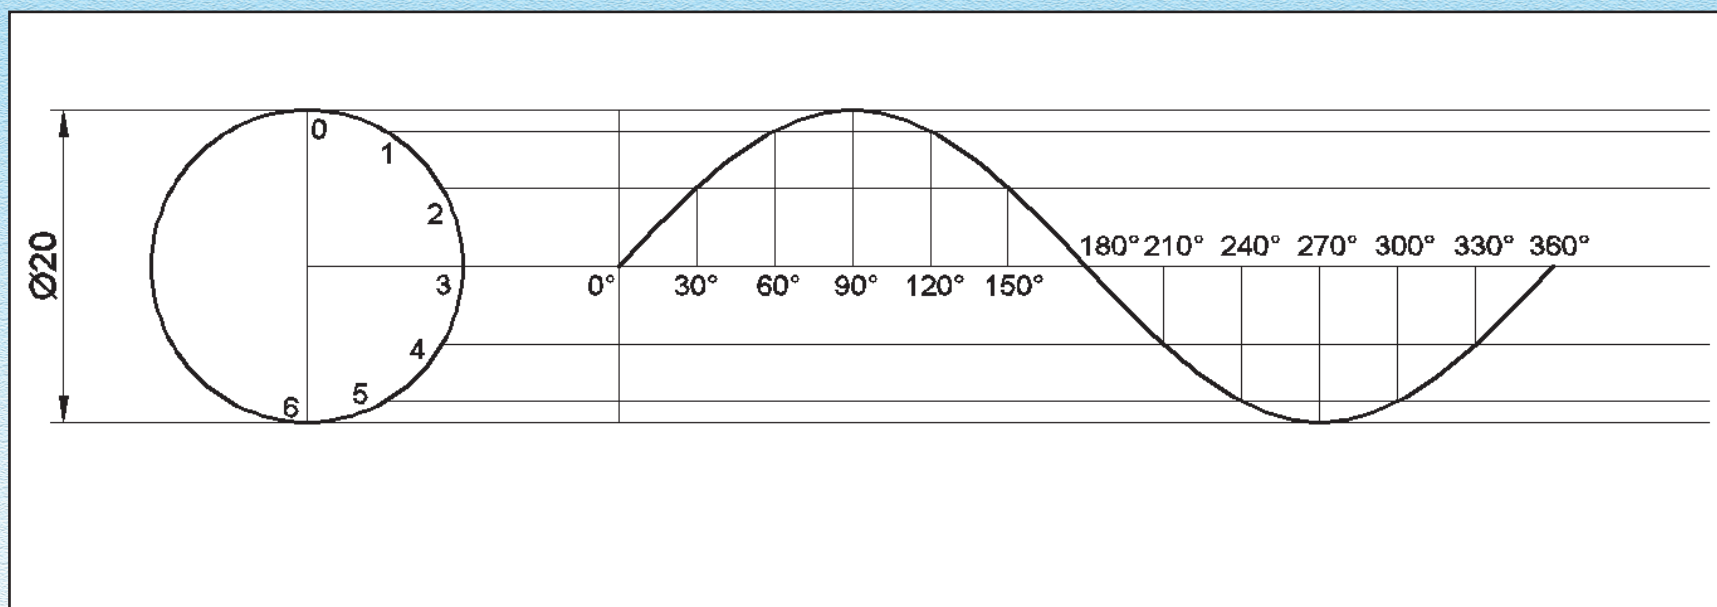

Fig. 3.13
3.7.1 CONSTRUCTION OF SINE CURVE : Refer Fig. 3.13 (i) Take a circle of given radius (10 mm) and divide it into twelve equal parts. (for simplicity only right side parts are shown) (ii) Assume a suitable scale to mark angles division ($0^\circ, 30^\circ, 60^\circ, 90^\circ, \dots, 360^\circ$) on the (x-Axis) central horizontal line (iii) Match the corresponding points. Join a smooth centre through them as shown. The corresponding lengths on the y-axis shows values of $\sin \theta$. Such a curve is called the sine curve.